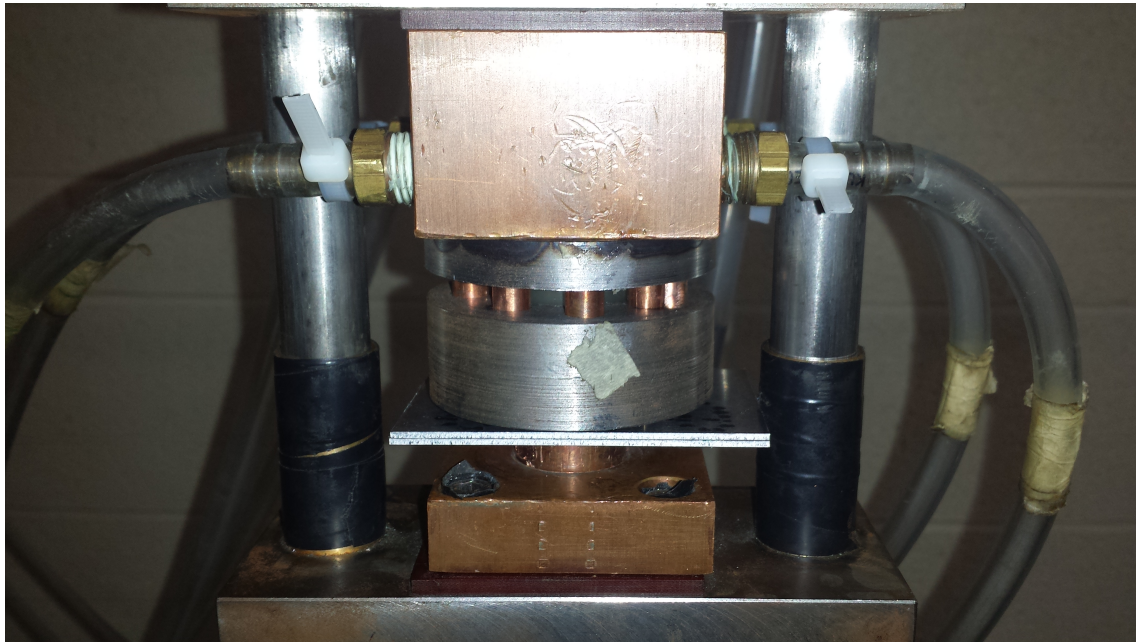

Figure 7: Sample (pair of sheet materials) placement between the anvil and the blank holder.
12. Position the two sheets between the anvil and the blank holder (Figure 7)